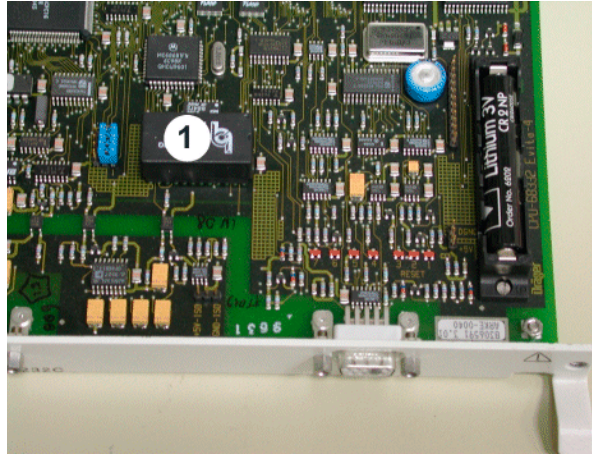

Figure 9 Detail of the CPU PCB
6. Carefully remove the real-time clock (Figure 9/1) from its IC socket.